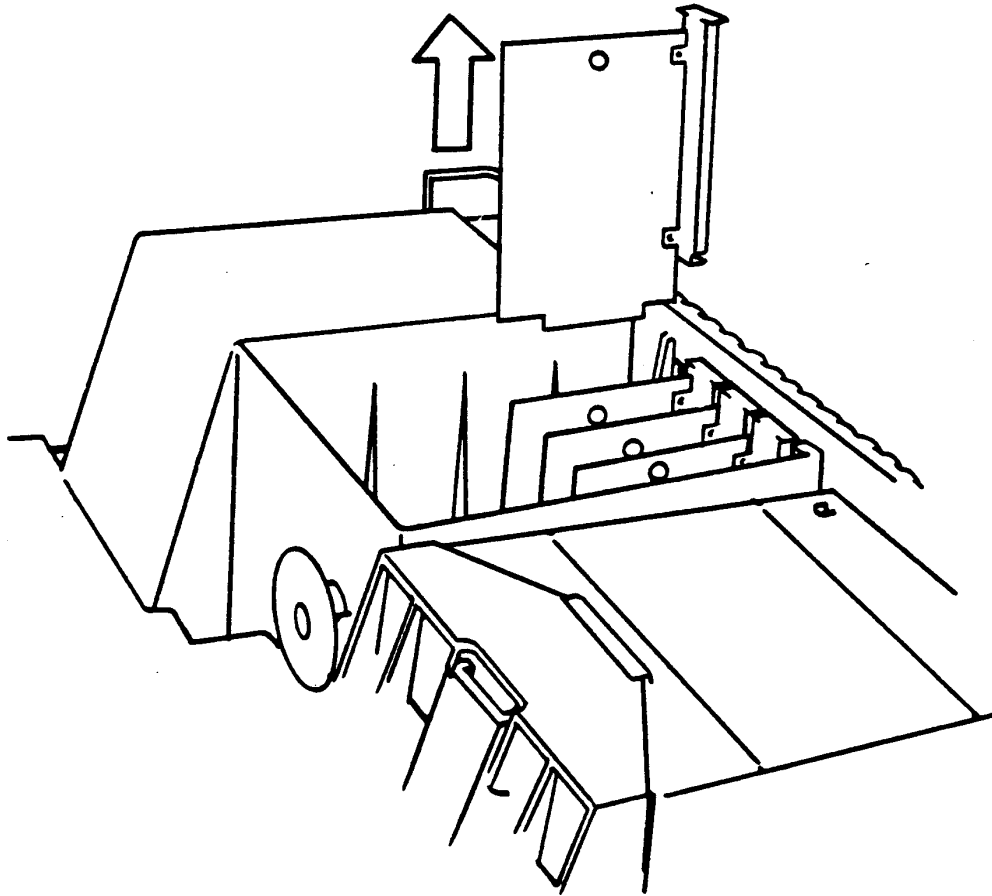

FIGURE 2.2
4. Grasping the card firmly with both hands (using thumbs and forefingers) gently pull straight up on the card to free it from the connector and guide slots. Refer to Figure 2.2.